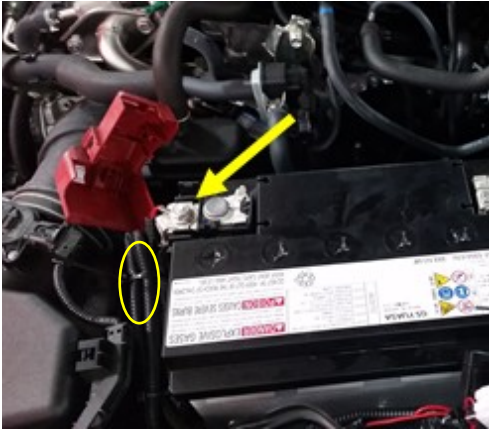

Figure 16
11. Attach positive, red, power wire ring terminal, to the positive battery terminal, wire tying the fuse to the positive factory battery cable (Figure 16).